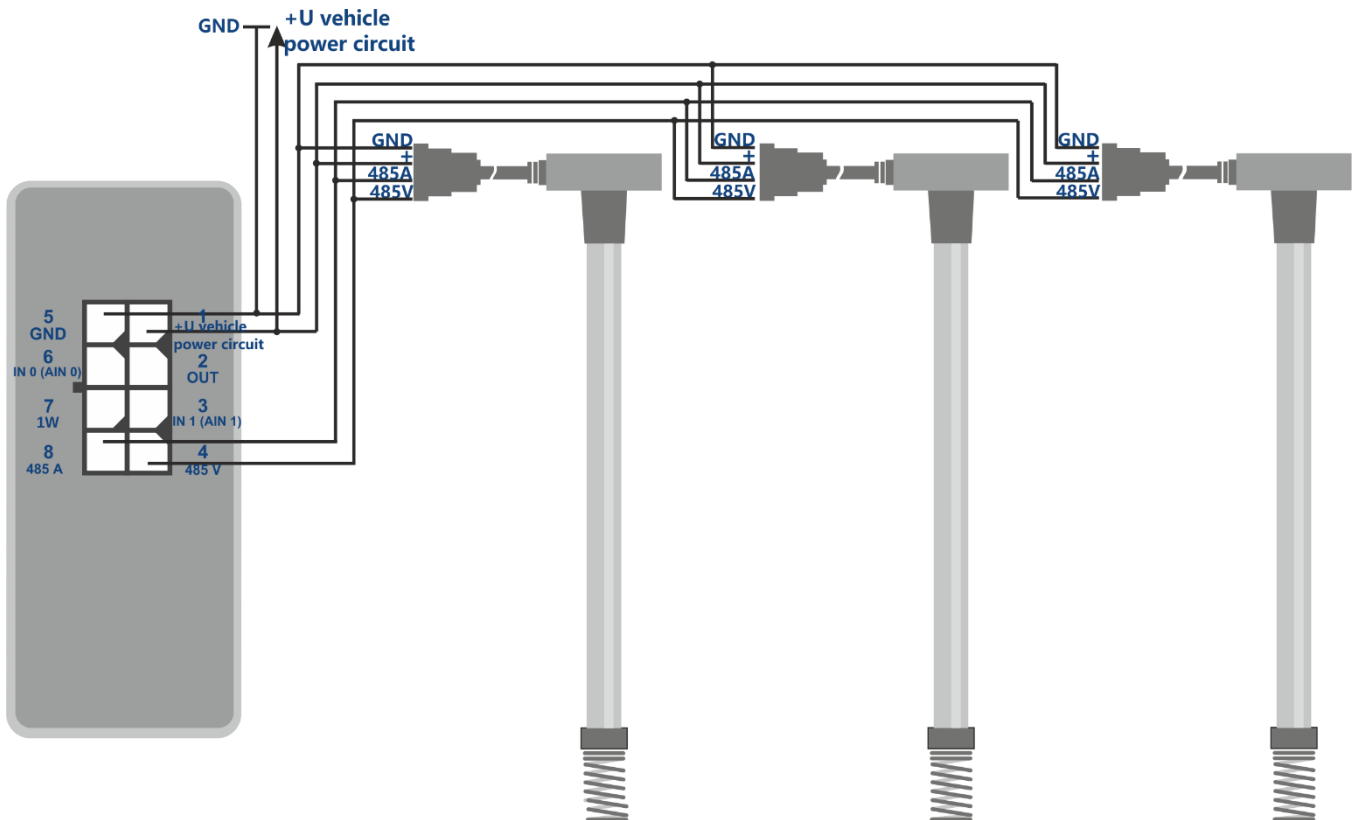

Figure 10 – Scheme of fuel level sensors connection
- Connect lines A and B to the tracker connector pins 8 and 4. The connection scheme is given in figure 10.